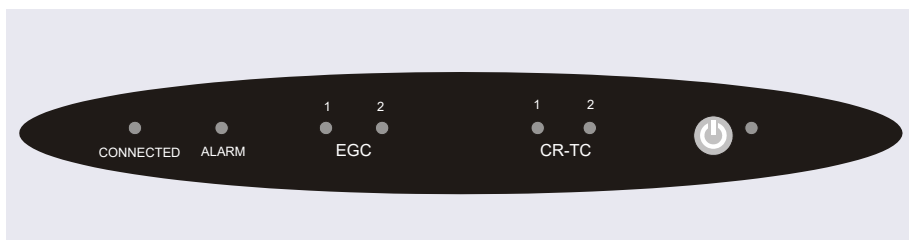

Figure 2-8. EG Status Bar
The status bar on the front of the Dionex ICS-6000 Eluent Generator (EG) includes buttons that provide control of certain EG functions, as well as LEDs that indicate the status of several EG functions (see Figure 2-8).
NOTE For routine on/off control, use the **POWER** button on the front of the EG (see Figure 2-8). To turn off the EG, press and hold the **POWER** button for 2 seconds.